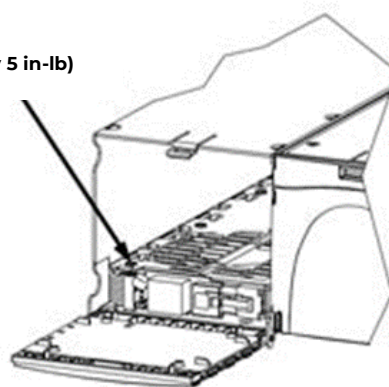

Figure 5-16: Ringer Chassis Installation
This procedure is used to install ringer chassis's and ringer modules in the CPS6000 shelf. Figure 5-16 shows a shelf, Ringer chassis and a Distribution Module. Up to two Ringer Chassis's may be installed per shelf, one in each of the two right-most power slots to the left of the Distribution Section. Each Ringer chassis accepts two ringer modules, a primary and a spare. For redundant ringing, install both Primary and Spare Ringers in each Ringer Chassis. The Ringer chassis and ringer modules are shipped separate.
2.	Press down on the faceplate latch and open the faceplate. See Figure 5-16.
3.	Secure the ringer chassis to the shelf using one #4 screw, hand tight to approximately 5 in-lbs. See Figure 5-16.
7.	Use Tip Jumper J12 to set the Ringer output type. See Figure 5-16 for J12 TipJumper location. Note: Ringer output type is determined by connecting Ring Return (Tip) to Battery or Ground. External connection of Ring Return (TIP) to Battery or Ground may be used with J12 in EXTERNAL position. Ringer output is disabled if Ring Return is not connected to Battery or to ground. See Section 10 for more information on Ringing Types.